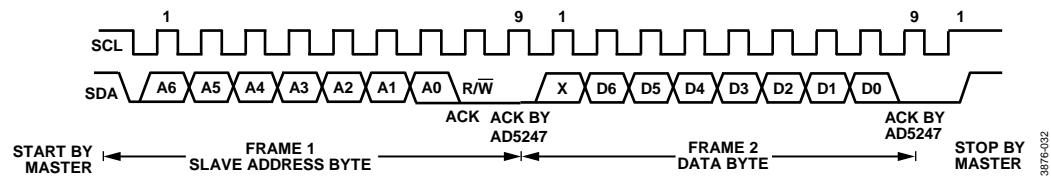
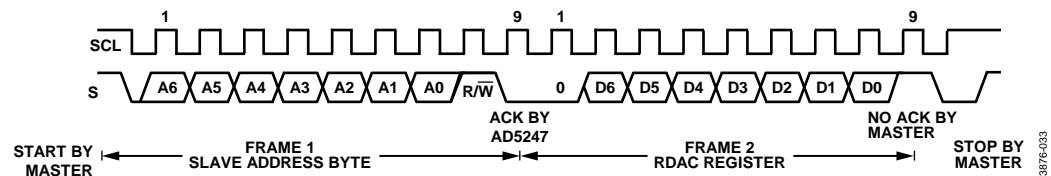

Figure 33. Writing to the RDAC Register
Figure 34. Reading from the RDAC Register
1. The master initiates a data transfer by establishing a start condition, which is when a high-to-low transition on the SDA line occurs while SCL is high (see Figure 33). The following byte is the slave address byte, consisting of the 7-bit slave address followed by an R/W bit (this bit determines whether data is read from or written to the slave device). The slave, whose address corresponds to the transmitted address, responds by pulling the SDA line low during the ninth clock pulse (this is termed the acknowledge bit). At this stage, all other devices on the bus remain idle while the selected device waits for data to be written to or read from its serial register. If the $\overline{R/W}$ bit is high, the master reads from the slave device. If the $\overline{R/W}$ bit is low, the master writes to the slave device.
2. In write mode, after acknowledgement of the slave address byte, the next byte is the data byte. Data is transmitted over the serial bus in sequences of nine clock pulses (eight data bits followed by an acknowledge bit). The transitions on the SDA line must occur during the low period of SCL and remain stable during the high period of SCL (see Figure 33).
3. In read mode, after acknowledgment of the slave address byte, data is received over the serial bus in sequences of nine clock pulses (a slight difference from write mode, where eight data bits are followed by an acknowledge bit). Similarly, the transitions on the SDA line must occur during the low period of SCL and remain stable during the high period of SCL (see Figure 34).
4. When all data bits have been read or written, a stop condition is established by the master. A stop condition is defined as a low-to-high transition on the SDA line while SCL is high. In write mode, the master pulls the SDA line high during the 10th clock pulse to establish a stop condition (see Figure 33). In read mode, the master issues a no acknowledge for the ninth clock pulse (that is, the SDA line remains high). The master then brings the SDA line low before the 10th clock pulse, which goes high to establish a stop condition (see Figure 34).